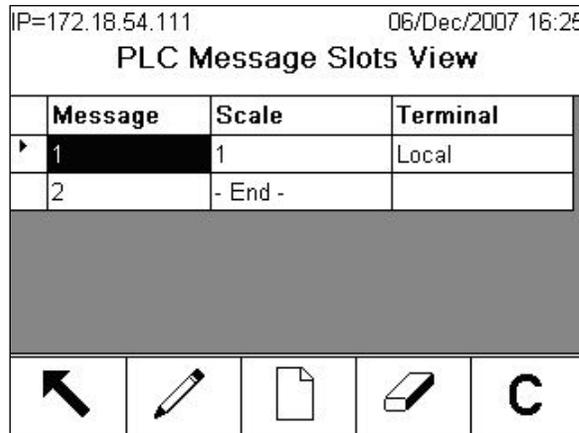

Figure 1-9: PLC Message Slots View Screen
- F. Depending on which format is selected, press the VIEW TABLE softkey  to set up the number of **Message Slots** (1, 2, 3, or 4. In Block Transfer mode, maximum number is 3.) [default is 0], or to configure the Template for communications between the IND780 and the PLC. Figure 1-9 shows the Message Slots View, which is viewed whenever the Format is **not** Template.